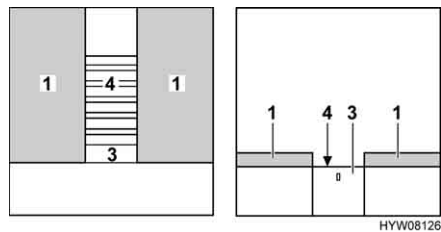

Fig. 118 During conversion
- Pull out slatted frame (Fig. 118,4) completely. To do this, pull on the extension (Fig. 118,3).